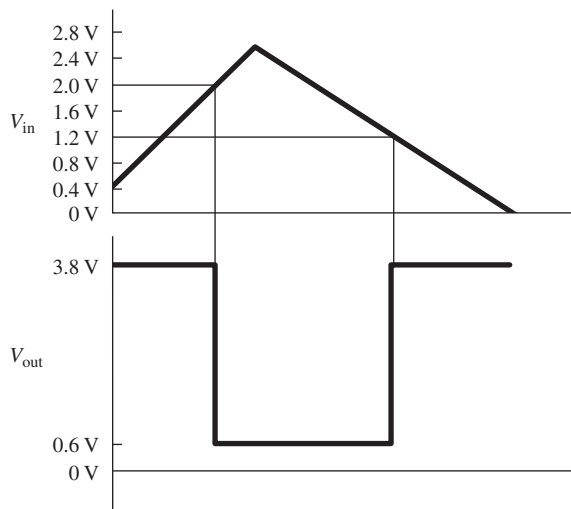

Figure P12
12. If the V_{in} and V_{out} waveforms shown in Figure P12 are observed on a Schmitt trigger device, determine its characteristics and sketch the transfer function (V_{out} versus V_{in}).